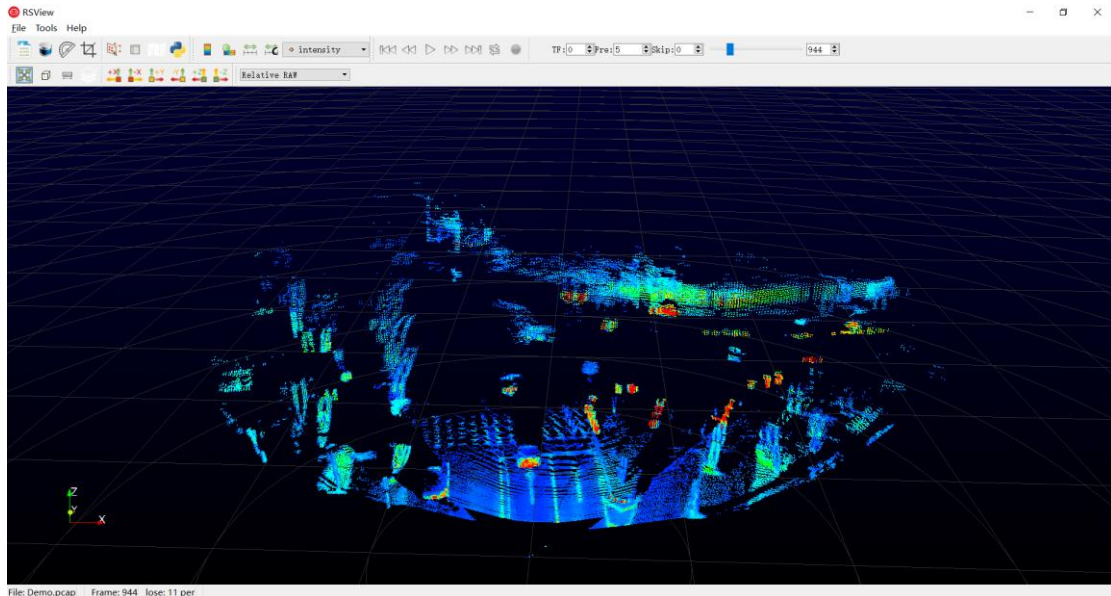

Figure A-4: RS-LiDAR-M1(B3 sample) Sensor Stream display
6. RSView begins displaying the colored point cloud from capturing the sensor data stream from LiDAR (as shown in Fig. A-4). The stream can be paused by pressing the **Play** button, click again, the stream continues.